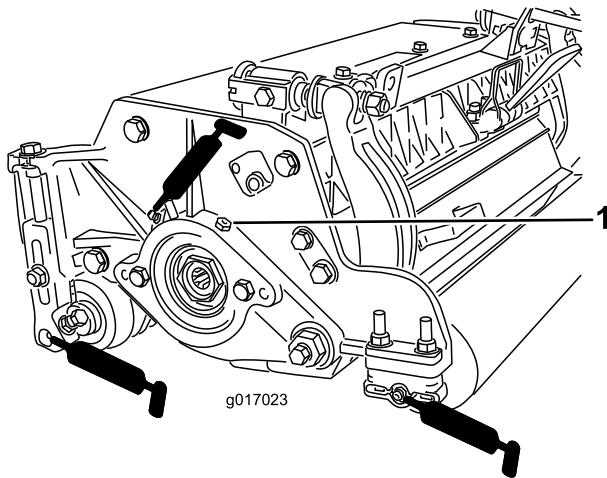

Figure 29
Each cutting unit has (6) grease fittings (Figure 29) that must be lubricated regularly with No. 2 General Purpose Lithium Base Grease.